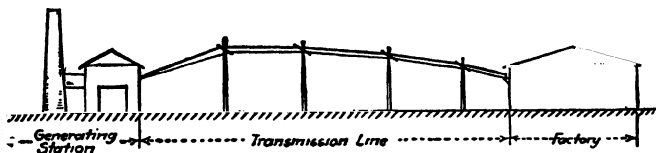

FIG. 1-11. An actual electric system.
**Three Divisions of an Electric Circuit.** Each of the above circuits can be seen to consist essentially of three main divisions. The section where the pressure is produced, that is, where the engine drives the generator, is called the "generator section." That part of the circuit which furnishes the path for the current from the place where it is generated to where it is consumed is the transmission section, and the section where the electricity is used or consumed is the consumption or conversion division. Conversion means "change," and it is here that electricity is changed to light, heat, or power. In an actual electric circuit like the one shown in Fig. 1-11, the three parts of the electric circuit are generating station, transmission line, and factory. The factory is the place where the power is consumed. Such an electric circuit is often called an "electric system."